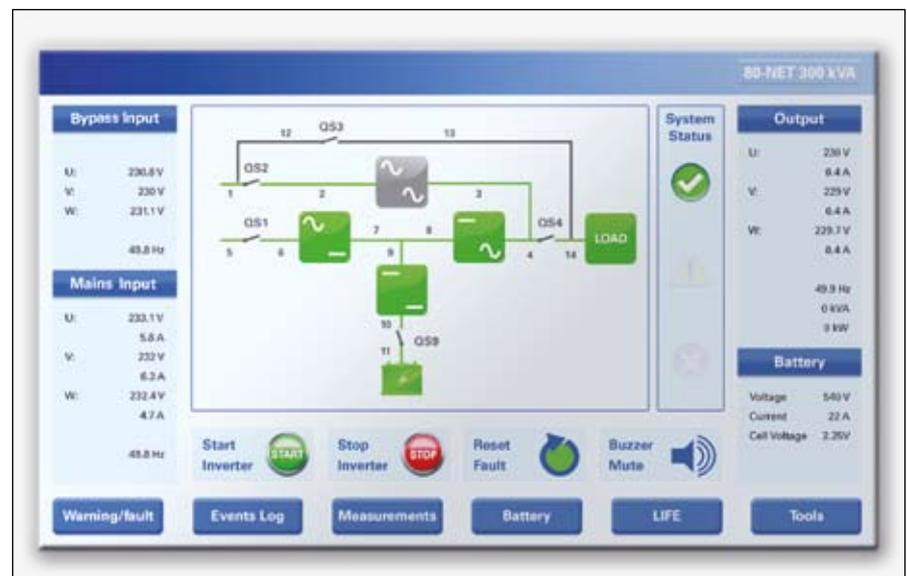

Figure 7. Touch screen display for Chloride 80-NET 60 to 500 kVA.
The main page of the touch screen displays a single-line diagram of the UPS along with the input and output measurements and information indicating the system status. The system status is indicated by three different icons; the tick icon indicates when the status is normal (OK), the triangle icon notifies of a system warning and the cross icon is activated when a fault is present. Below the single-line diagram there are four command buttons; one for starting and another for stopping the inverter, one for resetting faults (this becomes red when there is a system fault), and a buzzer/mute button for silencing/activating the acoustic signal in the case of an alarm (for details see Figure 7). Below these four commands there are six navigation buttons which each link to a dedicated information page: